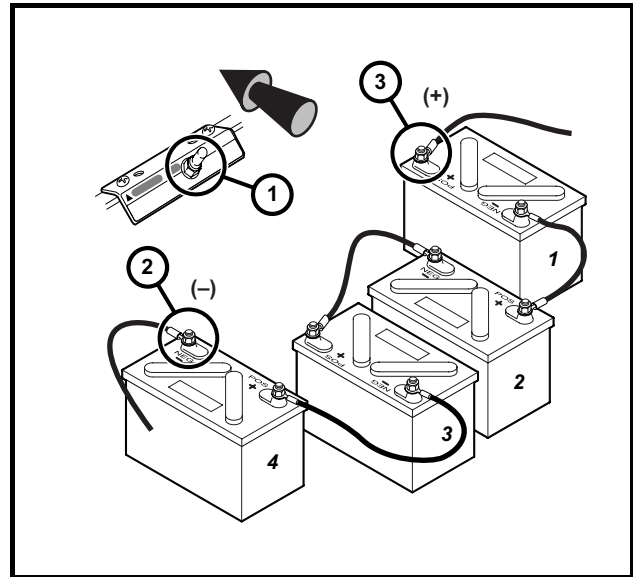

Figure 1-2 IQ System Electric Vehicle
- To avoid unintentionally starting the vehicle, disconnect the batteries as shown (Figure 1-2, Page 1-3).